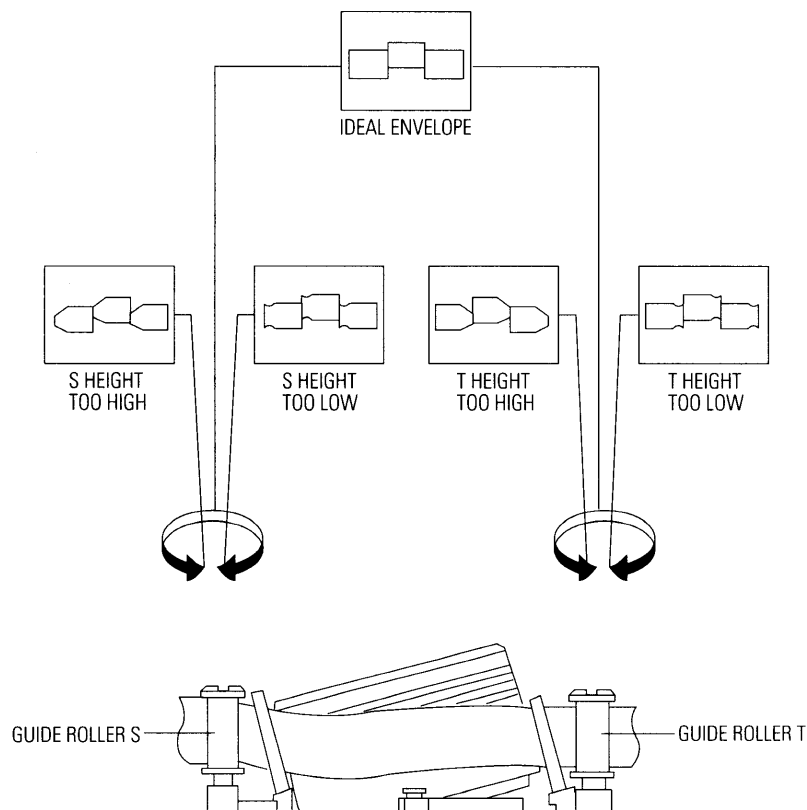

Fig. 5-11 Guide Roller S, T Height Adjustment
- 8) Turn the guide roller heads with a flat head (■) driver to obtain a flat video RF envelope as shown in Fig. 5-11.